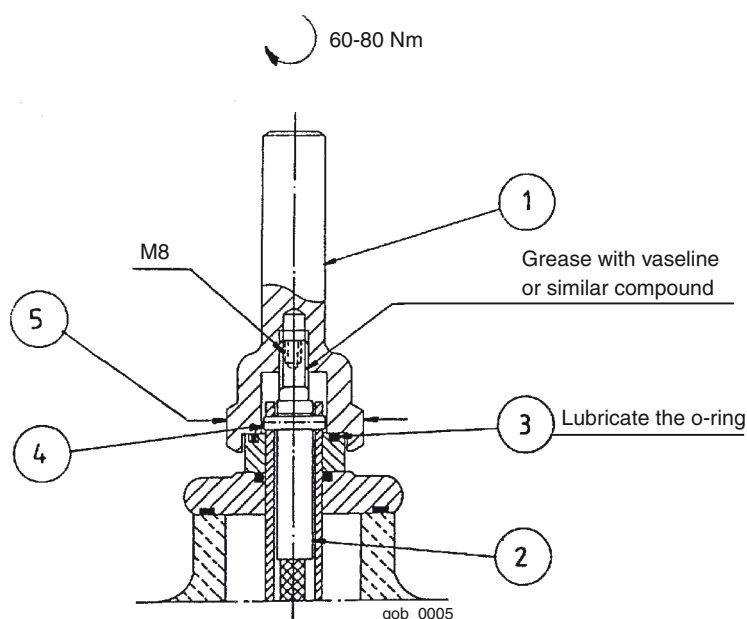

Fig. 8. Outer and inner terminal stud.
6. Lock the inner terminal with the locking pin according to Fig. 8.
4. Screw on the outer terminal and tighten with 60-80 Nm according to Fig. 8.